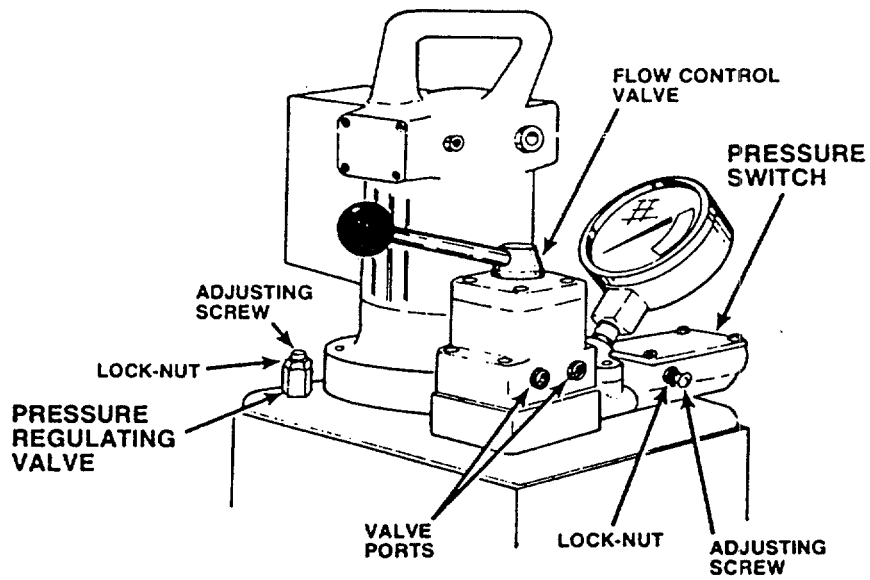

Figure 4
The pressure regulating valve shown in Figure 4 can be adjusted to by-pass oil at a desired pressure setting and the pump will continue to run. The optional pressure switch, see Figure 4, can be adjusted to stop the pump motor at a desired pressure setting, and then restart the pump when the pressure falls below that setting.
- * Place pipe plugs as shown in Figure 4, in valve ports when adjusting pressure regulating controls.